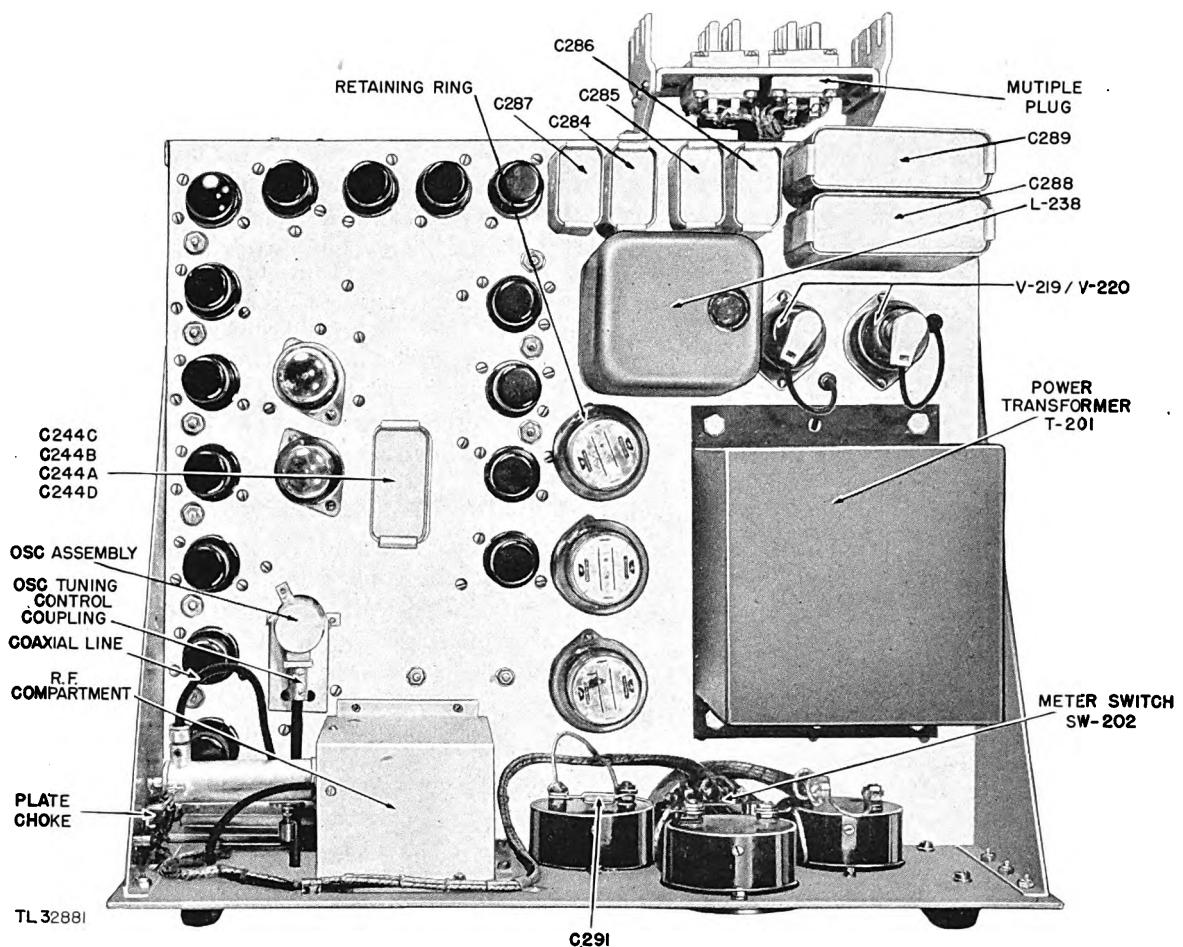

Figure 9. Receiver chassis, top view.
(3) Inspect the rigid coaxial lines used for r-f transmission to see that they are properly mounted.
(4) Flexible coaxial lines should be inspected only for loose coupling rings and/or deteriorated insulation (fig. 9). They should be handled as little as possible, and unless repairs are indicated by a visual inspection, the connections should not be removed from the associated couplings.
(5) Examine plugs and contact surfaces for cleanliness. Make sure the plugs, particularly the high-voltage types, are properly assembled and seated.